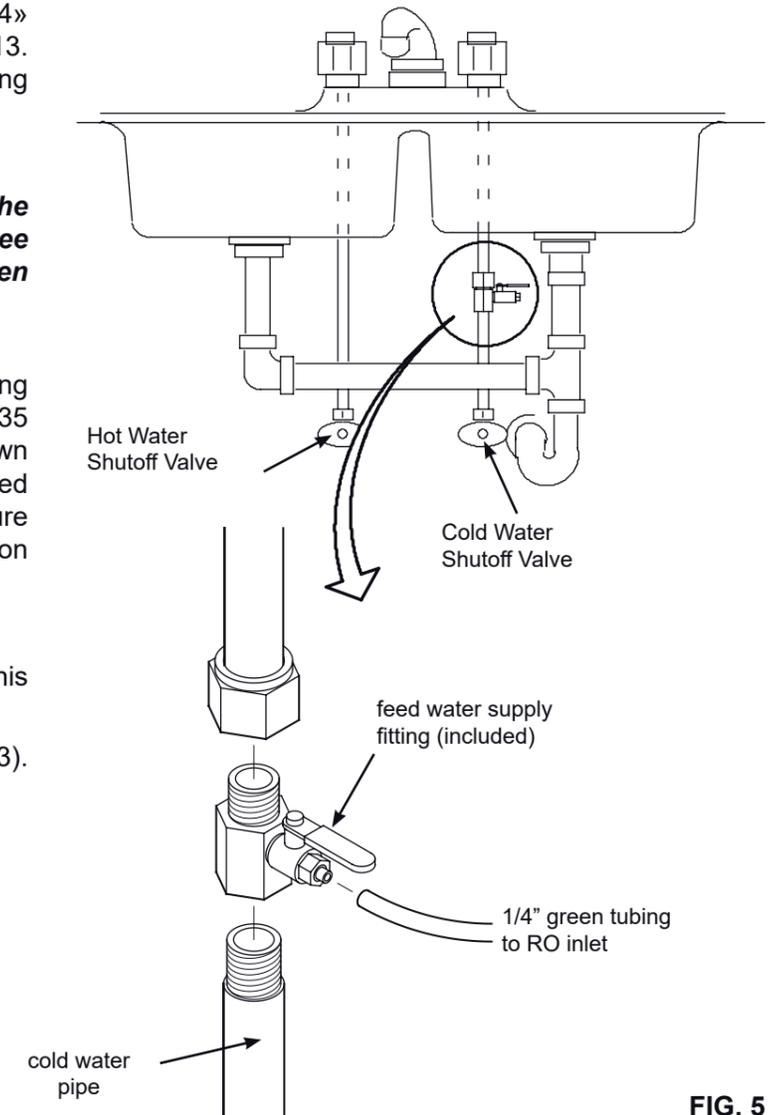

FIG. 5
1. Before starting, close the hot and cold water shutoff valves (See Figure 5).
Check and comply with national and local plumbing codes as you plan, then install a supply (cold) water fitting. The fitting must provide a leak tight connection to the RO 1/4» (6.35 mm) OD tubing, see Figure 20, page 13. A typical installation, using standard plumbing fittings is shown in Figure 5.
IMPORTANT: Before starting, close the hot and cold water shutoff valves (See Figure 5). Use a pan to catch water when disassembling the pipe.
Complying with plumbing codes, install a fitting on the cold water pipe to adapt 1/4» (6.35 mm) OD tubing. A typical connection is shown in Figure 5. You can use solder or threaded fittings. If threaded fittings are used, be sure to use pipe joint compound or Teflon tape on outside threads.